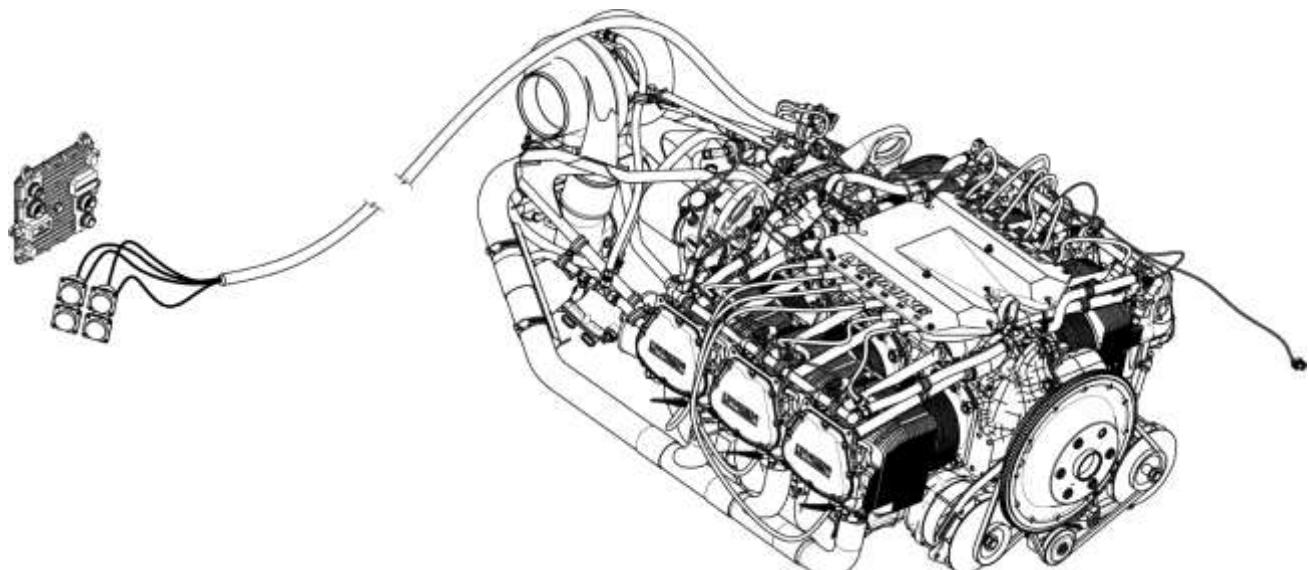

Figure 1
NOTICE: The engine is sent from the factory with the wiring harness sensors and spark plugs installed (Figure 1).
5. Examine the engine wiring harness (Figure 1), sensors, and actuators for damage. If damage is found, replace the damaged items. Refer to the **TEO-540-C1A Engine Maintenance Manual**.
3. Connect the wiring harness to the ECU (Figure 1) and secure the wiring harness per the airframe manufacturer's instructions.